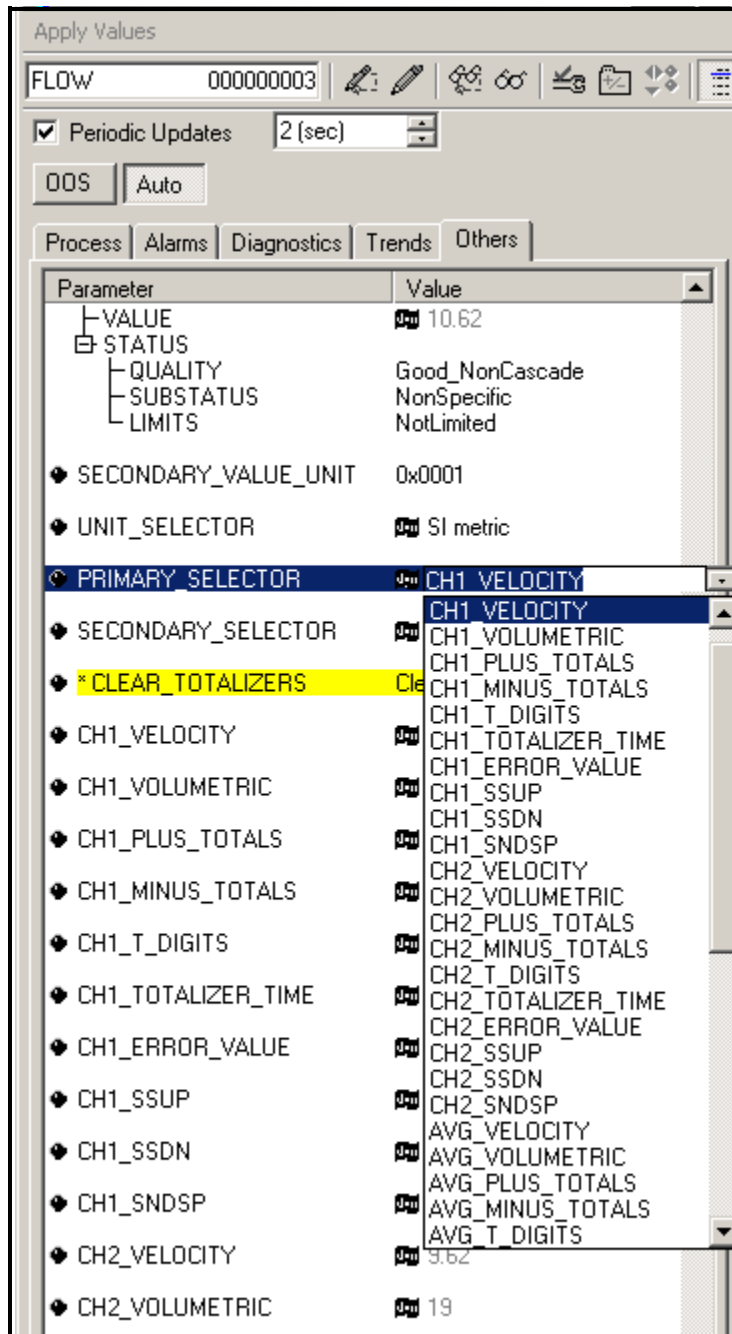

Figure 59: Primary Selector Drop Down List
2. Select the **Others** tab and open the drop down list for the PRIMARY_SELECTOR and SECONDARY_SELECTOR (refer to Figure 59 on page 153).
3. Choose the unit from the list (see Figure 59 on page 153).